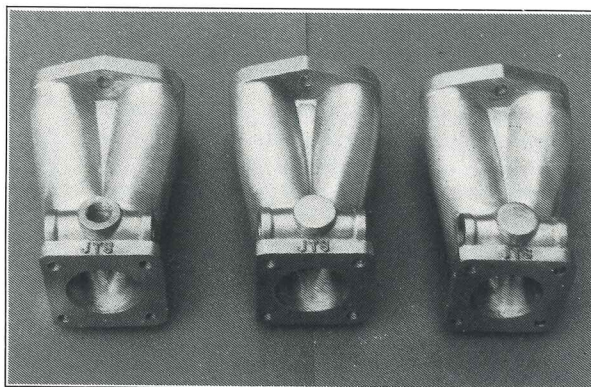

Fig 10. The 3 manifolds machined and ready for fitting to the head.
6. With the carbs fitted to the manifolds, the diameter of the carb duct (1 3/4") can be scribed through onto the manifold flange which can then be cleaned out to the correct size using a rotary burr. Any internal casting flashing is also cleaned out and the ducts generally smoothed out. Fig. 10.